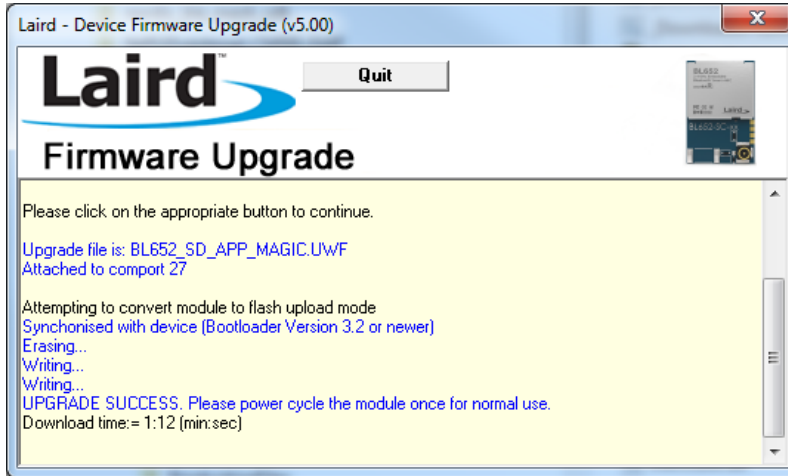

Figure 6: Click Quit
12. When the following screen displays (Figure 6), click **Quit**.